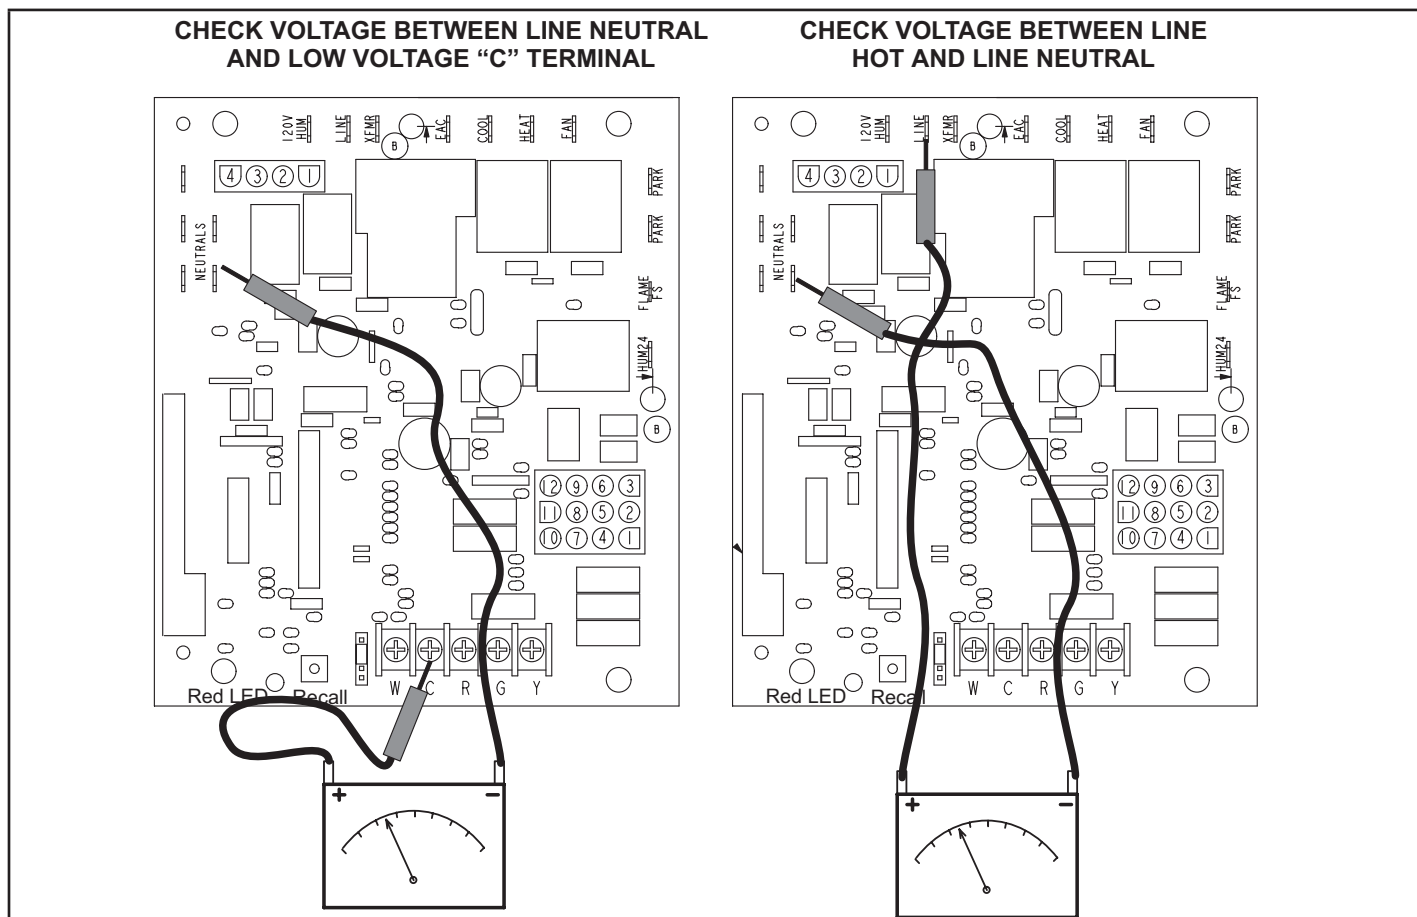

FIGURE 58
- 1 - Measure the AC voltage between Line Neutral (spade terminals) and "C" terminal (low voltage terminal block) on the integrated control. See FIGURE 58. A wide variation in the voltage between Line Neutral and "C" as a function of load indicates a poor or partial ground. Compare the readings to the table below. If the readings exceed the maximum shown in TABLE 22, make repairs before operating the furnace.
NOTE - FIGURE 58 is a typical ignition control illustration.
- 2 - In addition, measure the AC voltage from Line Hot to Line Neutral (spade terminals) on the integrated control. See FIGURE 58. This voltage should be in the range of 97 to 132 Vac.